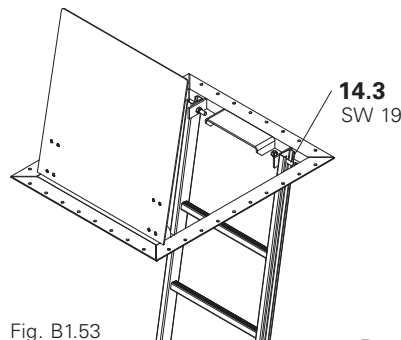

Fig. B1.53
2. Fix ladder at top to hatch, bolts SW 19 (14.3) (2x). (Fig. B1.53)